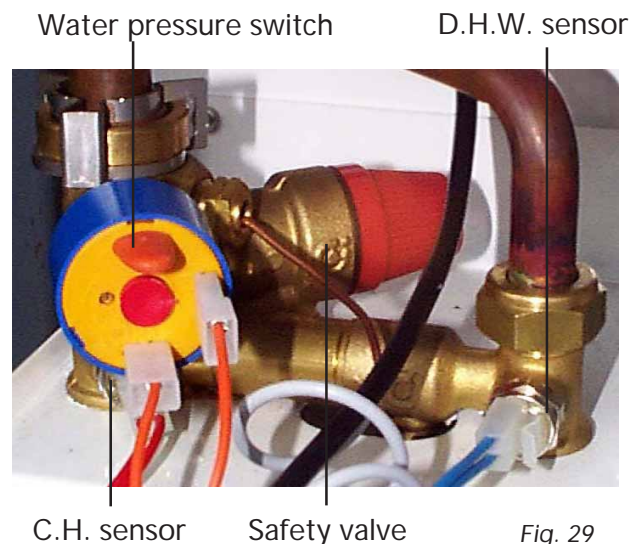

Fig. 29
## 7.07 D.H.W. temperature sensor or Central Heating Temperature Sensor (fig. 29)
- Identify the sensor from figure 29
## 7.11 Water Pressure Switch (fig. 29)
## 7.12 Safety Valve (fig. 29)
- Identify valve from fig. 29